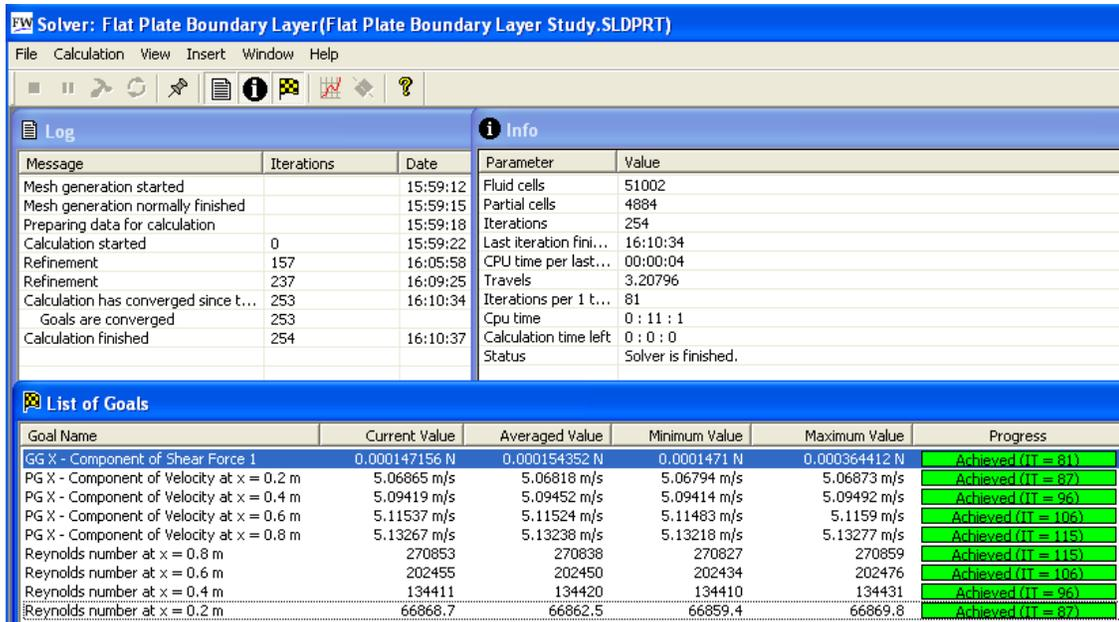
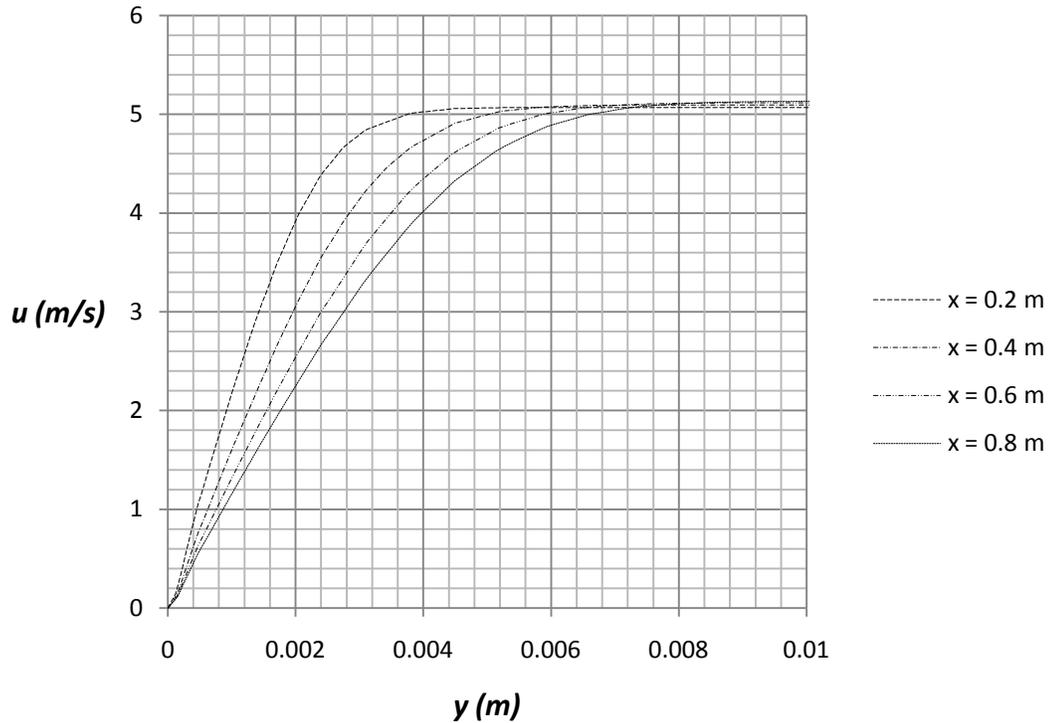
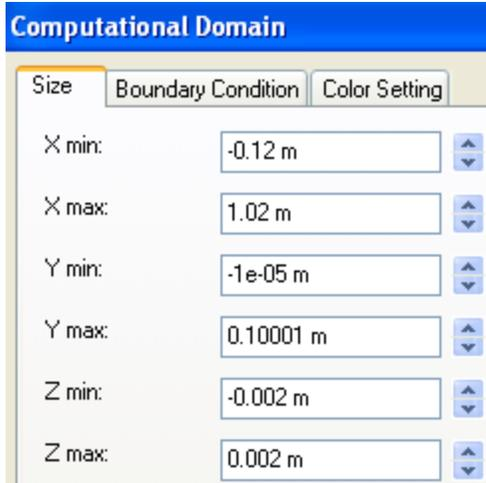
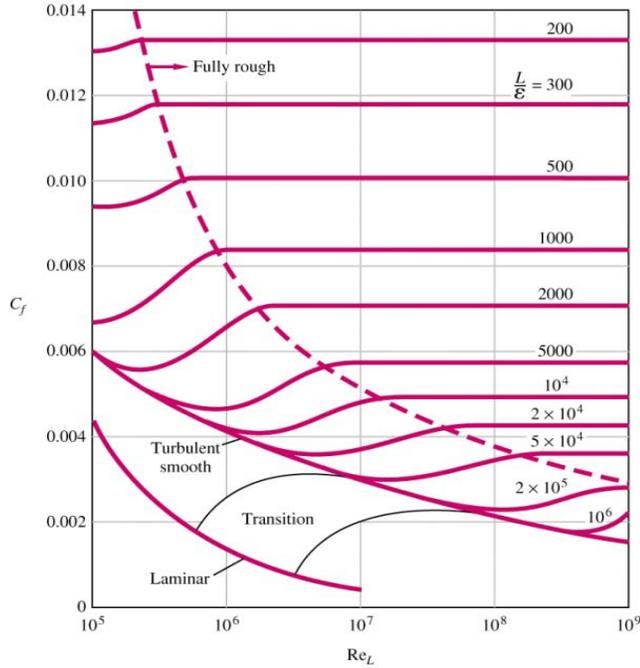

Figure 2.22c) Solver window
Figure 2.24c) Boundary layer velocity profiles on a flat plate at different streamwise positions
Figure 2.28a) Setting the size of the computational domain
Figure E3 Average friction coefficient for flow over smooth and rough plates, White (1999)
24. Place the file “xy-plot figure 2.24c)” into the **Local Disk (C:/SolidWorks/COSMOSFloWorks/FloWorks/lang/english/template/XY-Plots** folder to make it available in the **Template** list. Click on the  **FeatureManager design tree**. Click on the sketch **x = 0.2, 0.4, 0.6, 0.8 m**. Click on the  **COSMOSFloWorks analysis tree** tab. Right click **XY Plot** and select **Insert...**. Check the **X-velocity** box. Open the **Resolution** portion of the **XY Plot** window and slide the **Geometry Resolution** as far as it goes to the right. Click on the **Evenly Distribute Output Points** button and increase the number of points to **500**. Open the **Options** portion and check the **Display boundary layer** box. Select the template “xy-plot figure 2.24c)” from the drop down menu. Click OK  to exit the **XY Plot** window. An Excel file will open with a graph of the velocity in the boundary layer at different streamwise positions, see figure 2.24c). Rename the inserted xy-plot in the COSMOSFloWorks analysis tree to **Laminar Velocity Boundary Layer**.
From the data of figure 2.24c) we can see that the thickness of the laminar boundary layer is close to 3.88 mm at $Re_x = 66,900$ corresponding to $x = 0.2$ m. The free stream velocity at $x = 0.2$ m is
$U = 5.069$ m/s, see figure 2.22c) for list of goals in solver window, and 99% of this value is $U_\delta = 5.018$ m/s. The boundary layer thickness from FloWorks was found by finding the y position corresponding to the U_δ velocity. This value of the boundary layer thickness can be compared with a value of 3.80 mm from equation (3). In table 2.1 are comparisons shown between boundary layer thickness from FloWorks and theory corresponding to the four different Reynolds numbers shown in figure 2.24c). The Reynolds number varies between $Re_x = 66,900$ at $x = 0.2$ m and $Re_x = 270,900$ at $x = 0.8$ m.
The average friction coefficient over the whole plate C_f is not a function of the surface roughness for the laminar boundary layer but a function of the Reynolds number based on the length of the plate Re_L , see figure E3 in Exercise 8 at the end of this chapter. This friction coefficient can be determined in FloWorks by using the final value of the global goal, the X-component of the Shear Force F_f , see figure 2.22c) and dividing it by the dynamic pressure times the area A in the X-Z plane of the computational domain related to the flat plate.
30. Select **FloWorks>>Computational Domain...** Set the size of the computational domain to the values shown in figure 2.28a). Click on the OK button to exit. Select **FloWorks>>Initial Mesh...** from the SolidWorks menu and change the **Number of cells per X:** to **400** and the **Number of Cells per Y:** to **200**. Also, in the **Control Intervals** portion of the window, change the **Ratio** for **Y1** to **-100** and the **Ratio** for **X1** to **-5**. This is done to increase the number of cells close to the wall where the velocity gradient is high.). Click on the OK button to exit. Select **FloWorks>>Calculation Control Options...** from the SolidWorks menu. Change the **Maximum travels value** to **5** by first changing to **Manual** from the drop down menu. Travel is a unit characterizing the duration of the calculation.). Click on the OK button to exit.
The average friction coefficient over the whole plate C_f is a function of the surface roughness for the turbulent boundary layer and also a function of the Reynolds number based on the length of the plate Re_L , see figure E3 in Exercise 8. This friction coefficient can be determined in FloWorks by using the final value of the global goal, the X-component of the Shear Force F_f and dividing it by the dynamic pressure times the area A in the X-Z plane of the computational domain related to the flat plate, see figure 2.28a) for the size of the computational domain.
8. Use different fluids, surface roughness, free stream velocities and length of the computational domain to compare the average friction coefficient over the entire flat plate with figure E3.